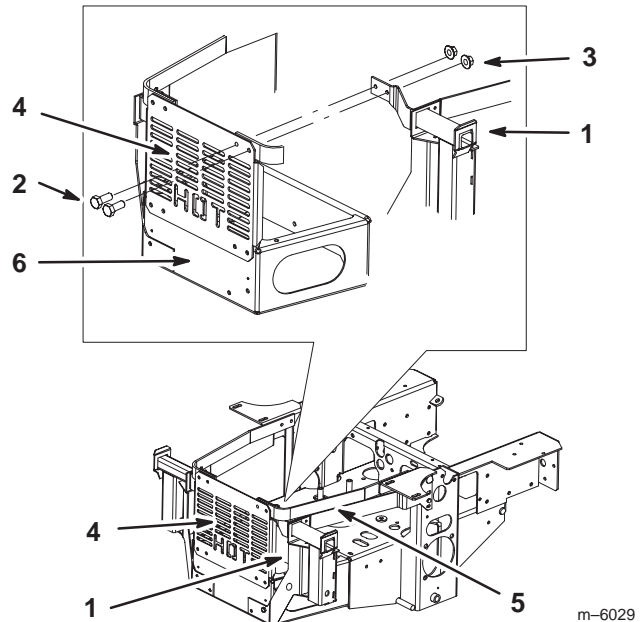

Figure 14
7. Install the bagger mounting bracket to the rear heat shield and engine guard strap with 2 bolts (5/16 x 1 in.) and 2 flange nuts (5/16 in.) (Fig. 14).
8. Repeat for the opposite side (Fig. 14).
2. Tighten the bagger mounting bracket to the upper rear heat shield and engine guard strap (Fig. 14). See torque table.